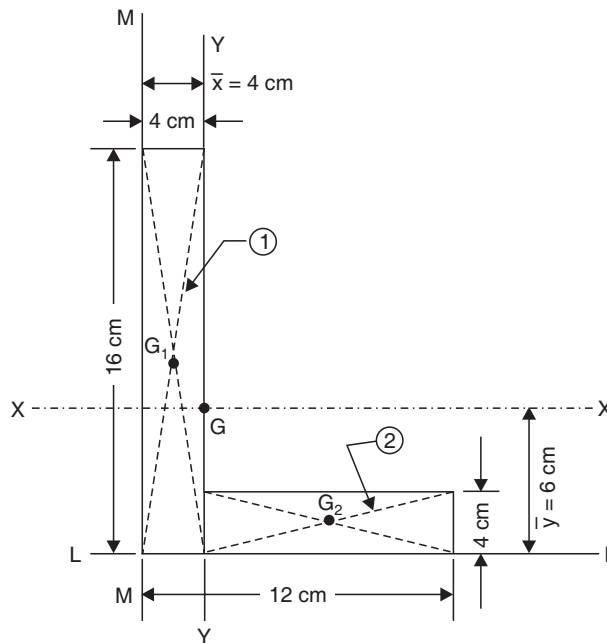

Fig. 4.20
**Example 4.1.** Find out the position of the centroid of L section as shown in Fig. 4.20.
**Sol.** Refer to Fig. 4.20.